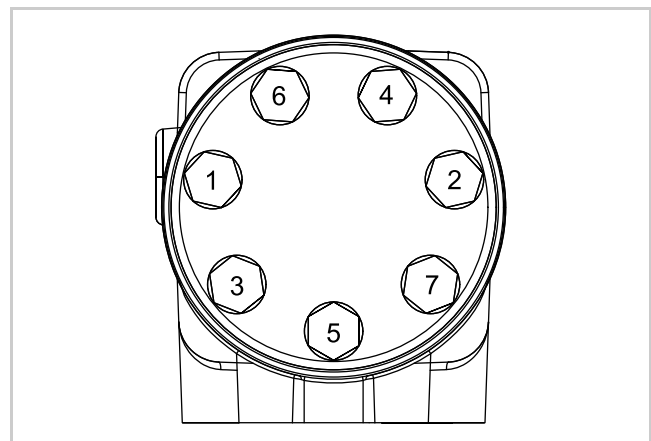

Fig. 54 (22667)
21. Install the 7 dry cap screws in the end cap. Torque all screws to 11 to 17 Nm (100 to 150 in lb) evenly, then torque to 26 Nm (235 in lb) in sequence shown in Figure 54.